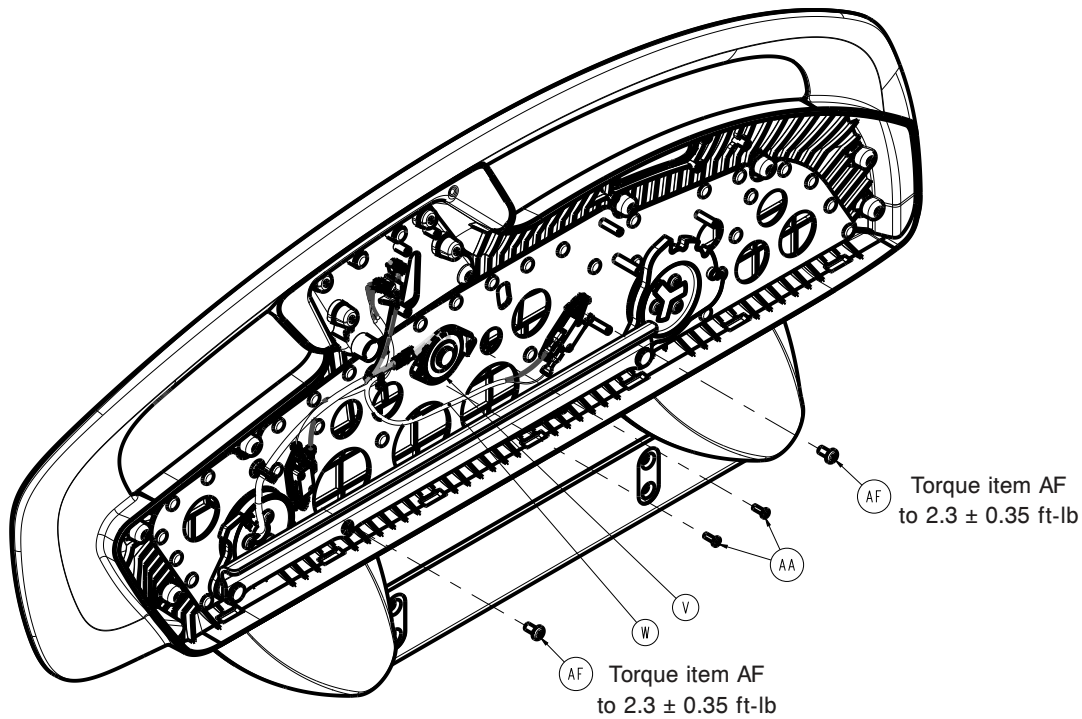

Figure 54 – Removing the speaker assembly
15. Using a T30 Torx driver, remove the screws (AF) that secure the siderail switch assemblies (W) to the siderail hoop (Figure 54). Pull out the cable retainer. Save and remove the switches.
10. Unplug both wires (black-NC2 of switch and red-COM of switch) connected to the siderail switch assembly (W) (Figure 54).
11. Using a T30 Torx driver, remove the screw (AF) that secures the siderail switch assembly (W) and bracket to the siderail frame (Figure 54).